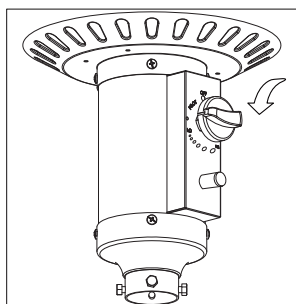

Figure 3
- Push in control knob and turn counterclockwise to "PILOT" (*Figure 3*).